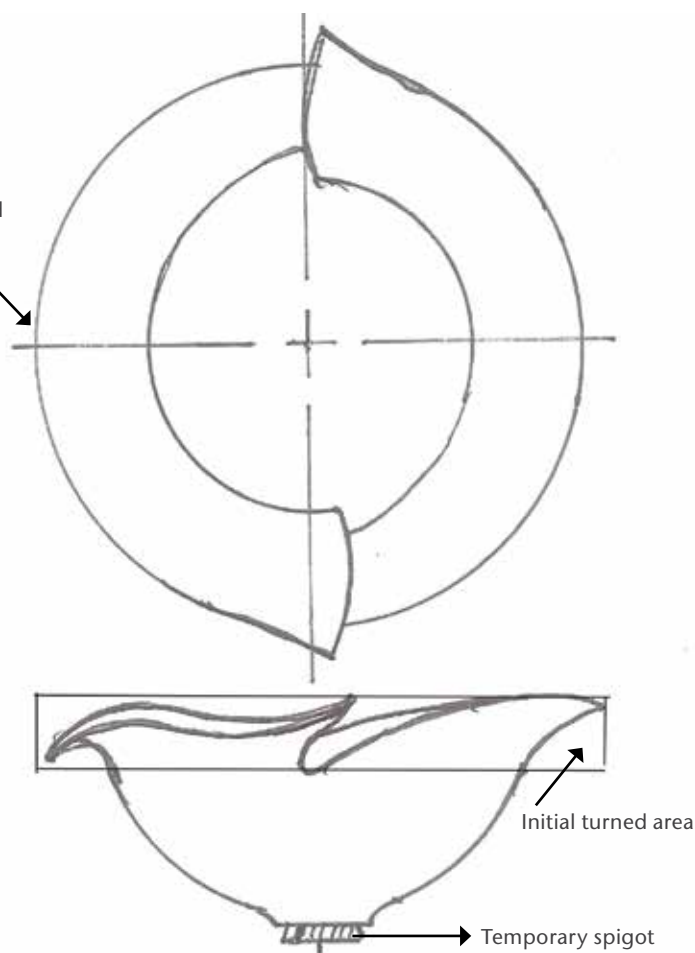

Figure 1.
2. Shape the outside of the bowl using a deep-fluted bowl gouge. Roll the gouge on its side with the flute facing the outside of the bowl and cut with the bottom half of the cutting edge (*Photo 3*). *Figure 1* illustrates the shape I try to achieve for this design.